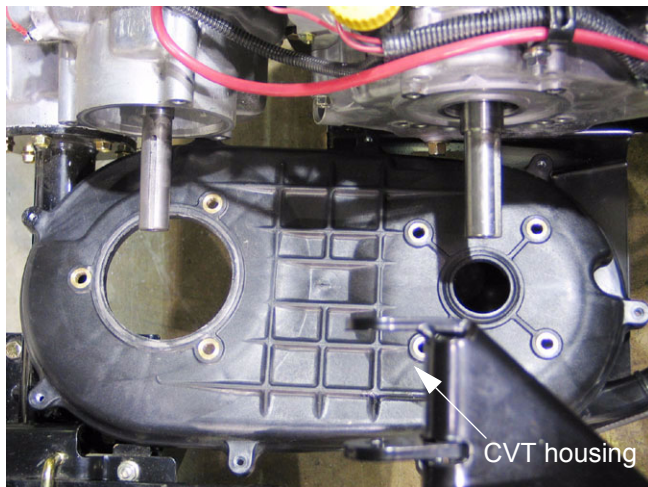

Figure 6.6
- 6.6. Lift the bed. Remove the exhaust pipe and the CVT assembly, including the housing, as described in the CVT section of this manual. See Figure 6.6.